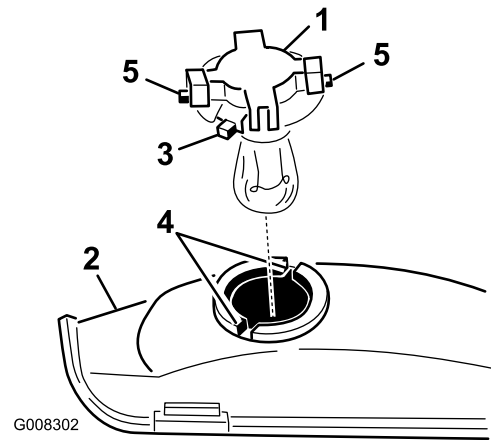

Figure 30
7. Rotate the bulb holder 1/4 turn counterclockwise and remove it from the reflector (Figure 30).